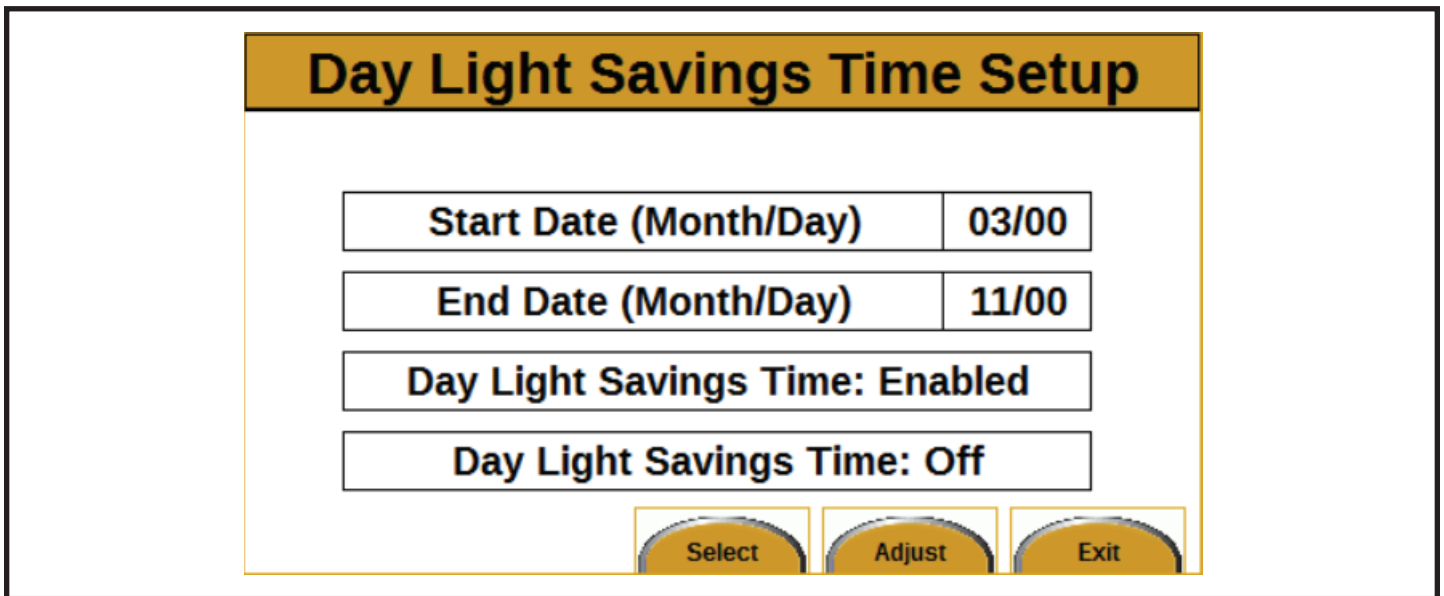

Figure 15
7. Press the Adjust button. The Day Light Savings Time Setup screen will appear (*see Figure 15*).